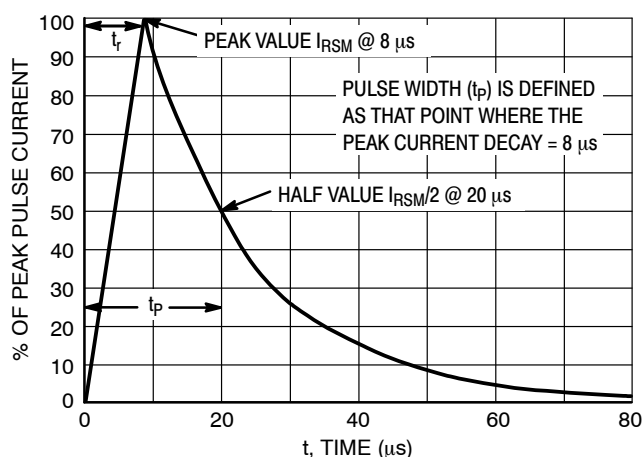

Figure 5. 8 X 20  $\mu$ s Pulse Waveform
3. Surge current waveform per Figure 5.